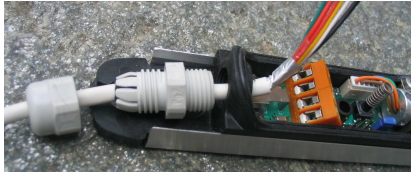

Fig. 9
- 2) Insert the wire in the chock (Fig. 9).